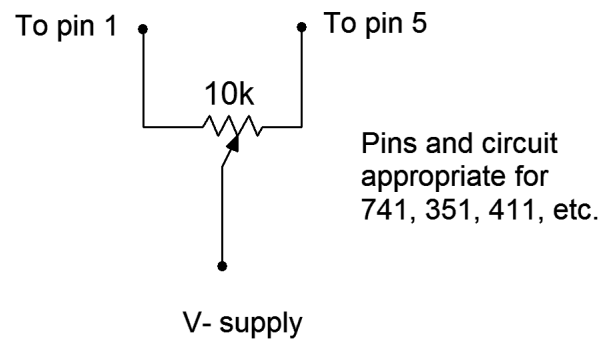

Figure 2
8. Manufacturers normally allow for output nulling through the addition of external circuitry. Modify the circuit by adding the components shown in Figure 2. Using the 47k  $\Omega$  resistor for  $R_f$ , adjust the potentiometer to null the output. Also, record the DC output voltage with the potentiometer fully clockwise and fully counterclockwise.